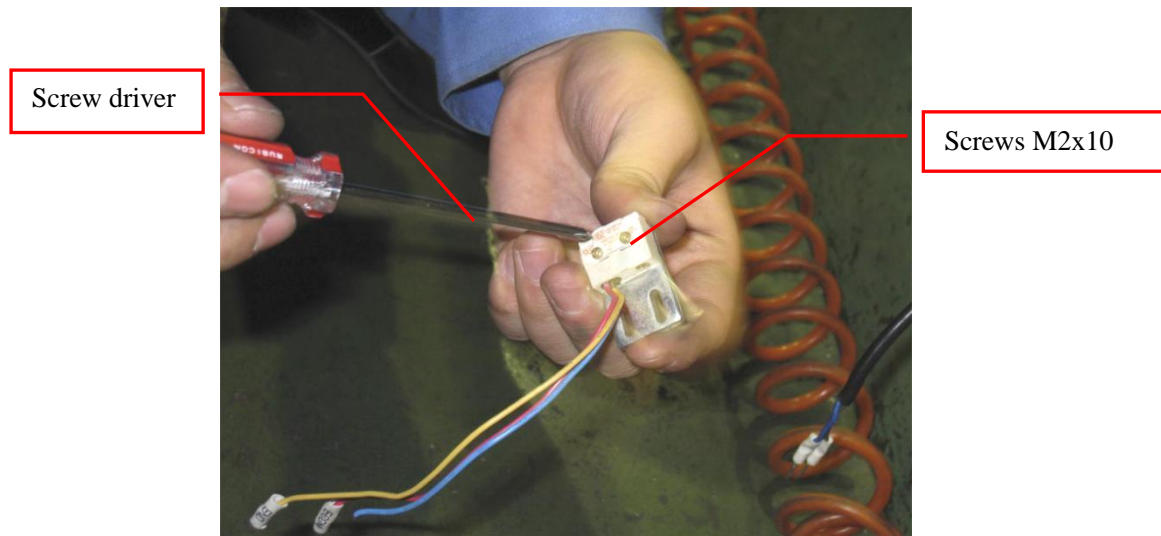

Figure 24: Removing brake switch from bracket
5. Loosen the screws M2x10 using a Philips head screw driver. The switch is secured with glue, so use the straight head screwdriver to separate it from the bracket. See Figures 24 and 25.